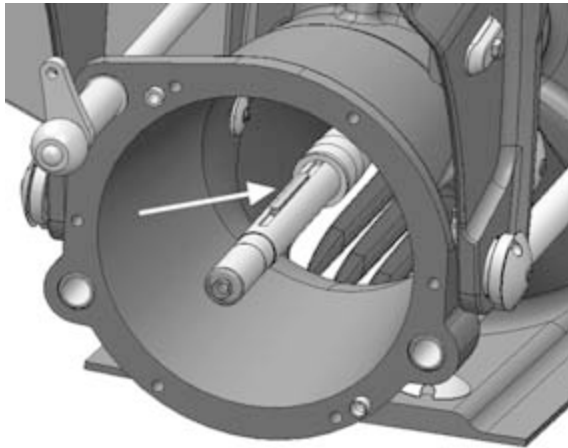

Figure 36. Wedge groove
3. When you find the right adjuster sleeve length, place the wedge in the shaft's groove (figure 36) and push the impeller on the shaft against the adjuster sleeve.